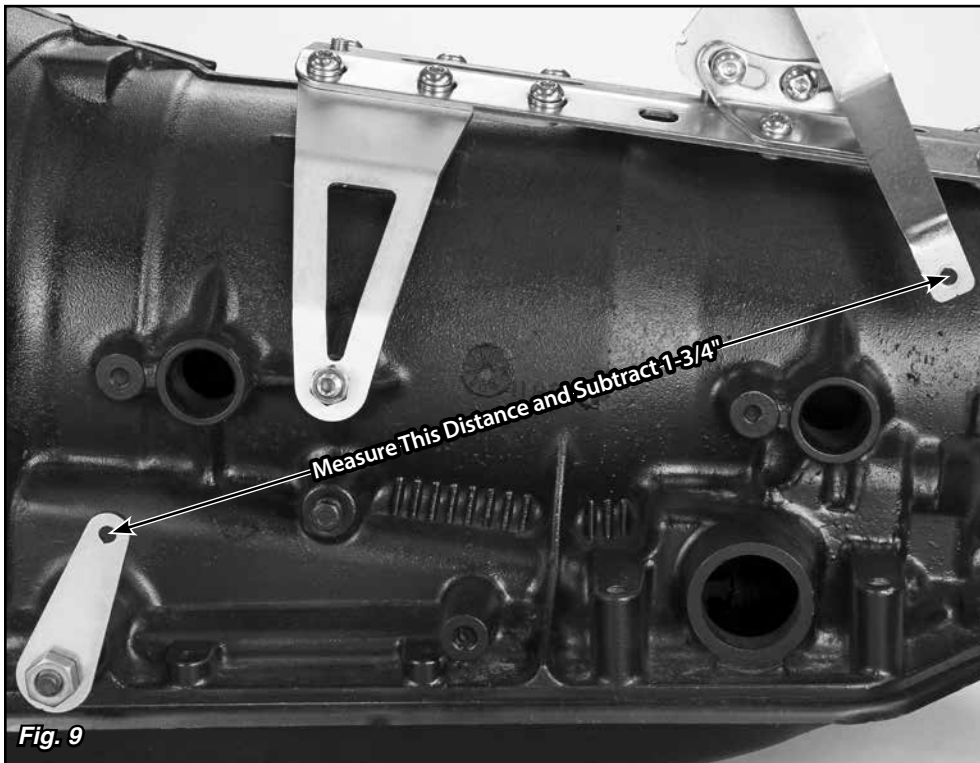

Fig. 9
Step 15: Verify both 1/4"-28 jam nuts are on the threaded rod, and install a rod end onto each end of the threaded rod. Attach the threaded rod assembly to the **inside** of the trans gear lever and to the **outside** of the quad shift lever using the 1/4"-28 x 1" button head bolts, flat washers, and nylock nuts as shown in **Fig. 9** and **Fig. 10**. The button head bolts can be installed from either direction, but make sure the rod end is sandwiched between the flat washer and the trans gear lever or quad shift lever.